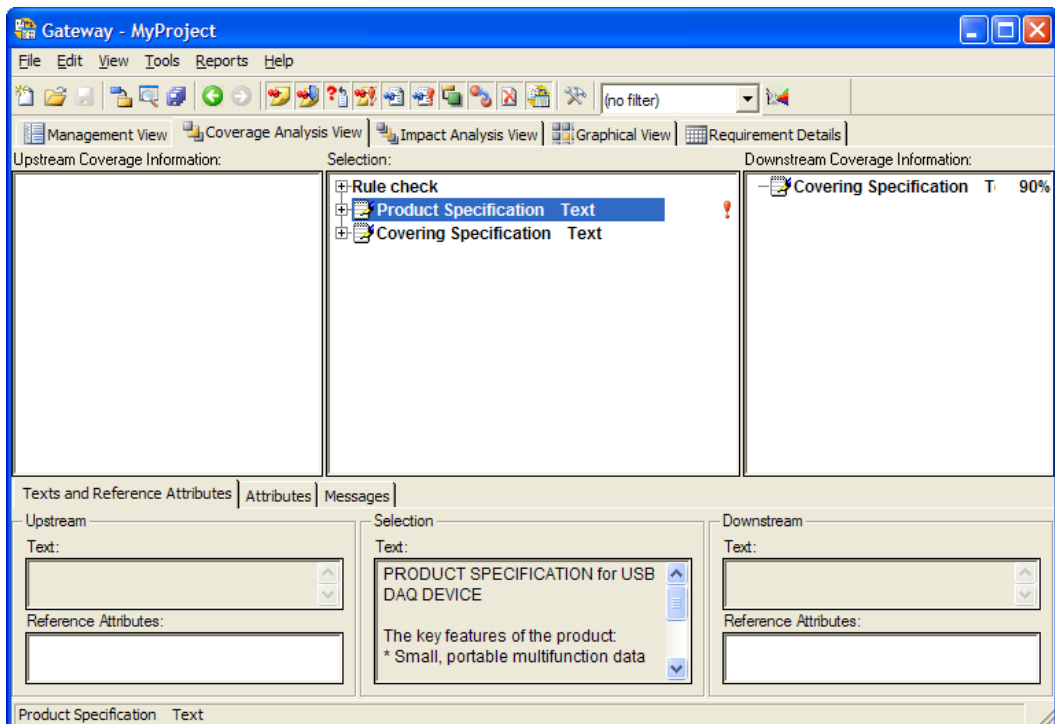

Figure 4-1. Coverage Analysis View
1. Click the **Coverage Analysis View** tab in the main window. Check to make sure that the Product Specification and the Covering Specification documents in the Selection column are collapsed, as shown in Figure 4-1.